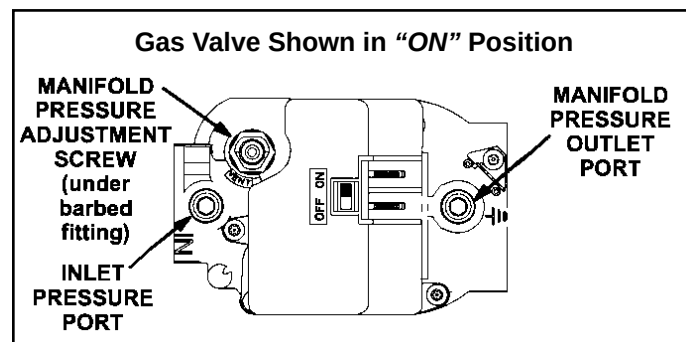

Figure 26.
See Figure 26
6. Move switch on gas valve to OFF. Do not force. See Figure 26.
8. Move switch on gas valve to ON. Do not force. See Figure 26.